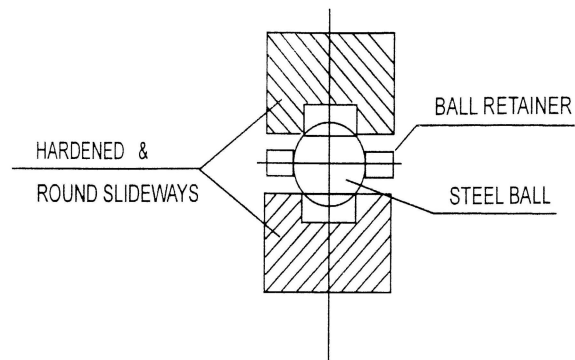

Fig. 2a
- 3.1 This is just for the machine which provided with ball rolling sideways (Fig.2a).